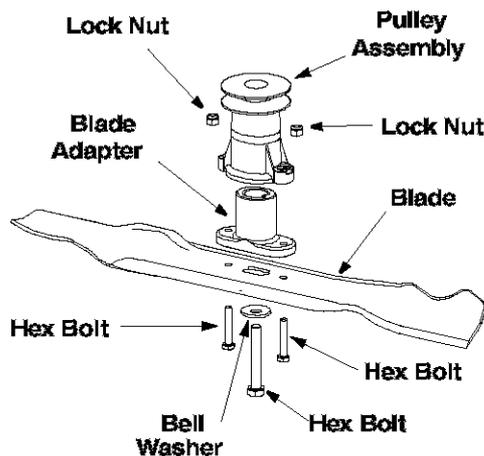

Figure 13
- Remove the bolt and the bell washer that hold the blade-pulley assembly to the engine crankshaft. See Figure 13 . Remove the assembly from the crankshaft.
- Install the blade adapter on the pulley with the “star” away from the pulley. See Figure 13 .